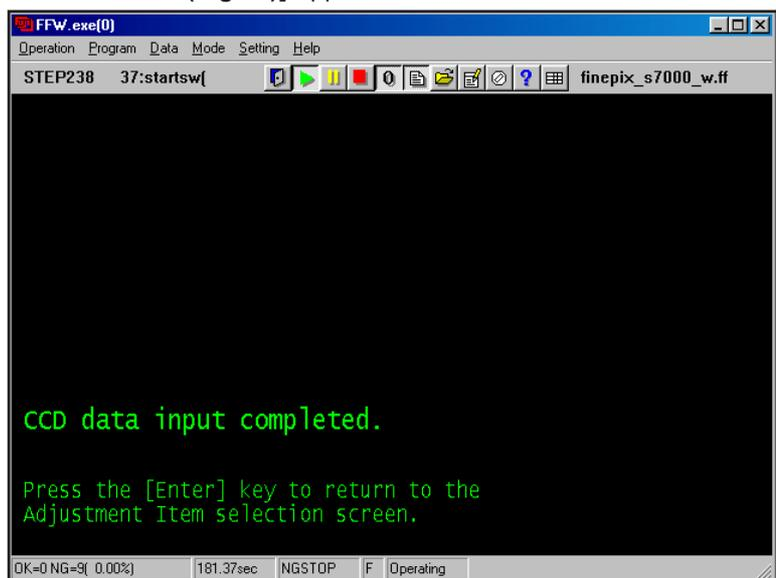

Fig.15
---> When the adjustment data is written satisfactorily to the Flash ROM the [CCD Data Input Complete Screen (Fig.15)] appears.
Press the Enter key while in the [CCD Data input Complete Screen (Fig.15)].